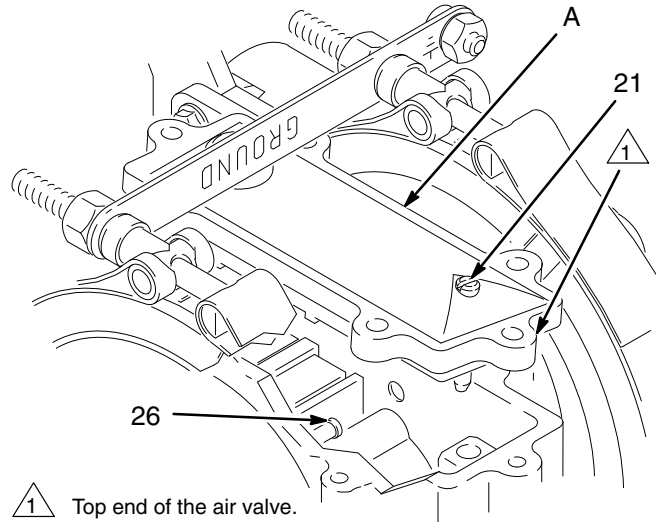

Fig. 10
15. Align the air valve assembly (A) so the reset shaft (21) is at the top and the valve is angled away from a protruding pilot pin (26), then slip it into position. See Fig. 10. **Do not force the air valve down onto the pin.** If the pin is interfering with the actuator link (16), make sure the valve is shifted away from the pin (see step 14), then reposition the valve.
NOTE: This example shows how to shift the air valve when a pilot pin (26) is protruding as shown in Fig. 10. If the pin on the other side of the air valve is protruding, the valve should be shifted in the reverse of this example.